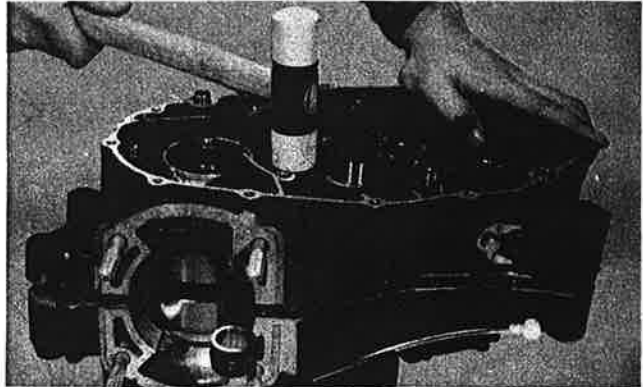

Fig. 3-4-6
2. Set the crankcase right half onto the shafts and tap lightly on the case with a soft hammer to assemble. (Fig. 3-4-6)